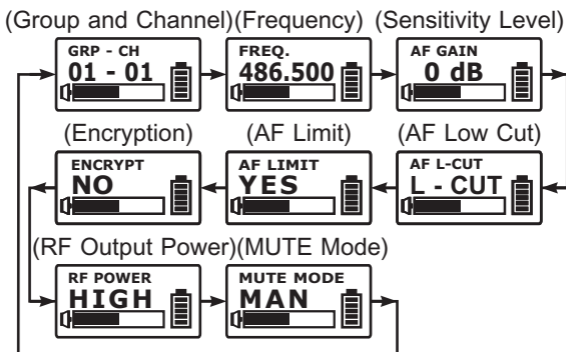

Fig. 6
2. MODE button ⑦: Press MODE button ⑦ to access one of the 8 parameters below and press SET button ⑧ to activate parameters for changing, Fig. 6.